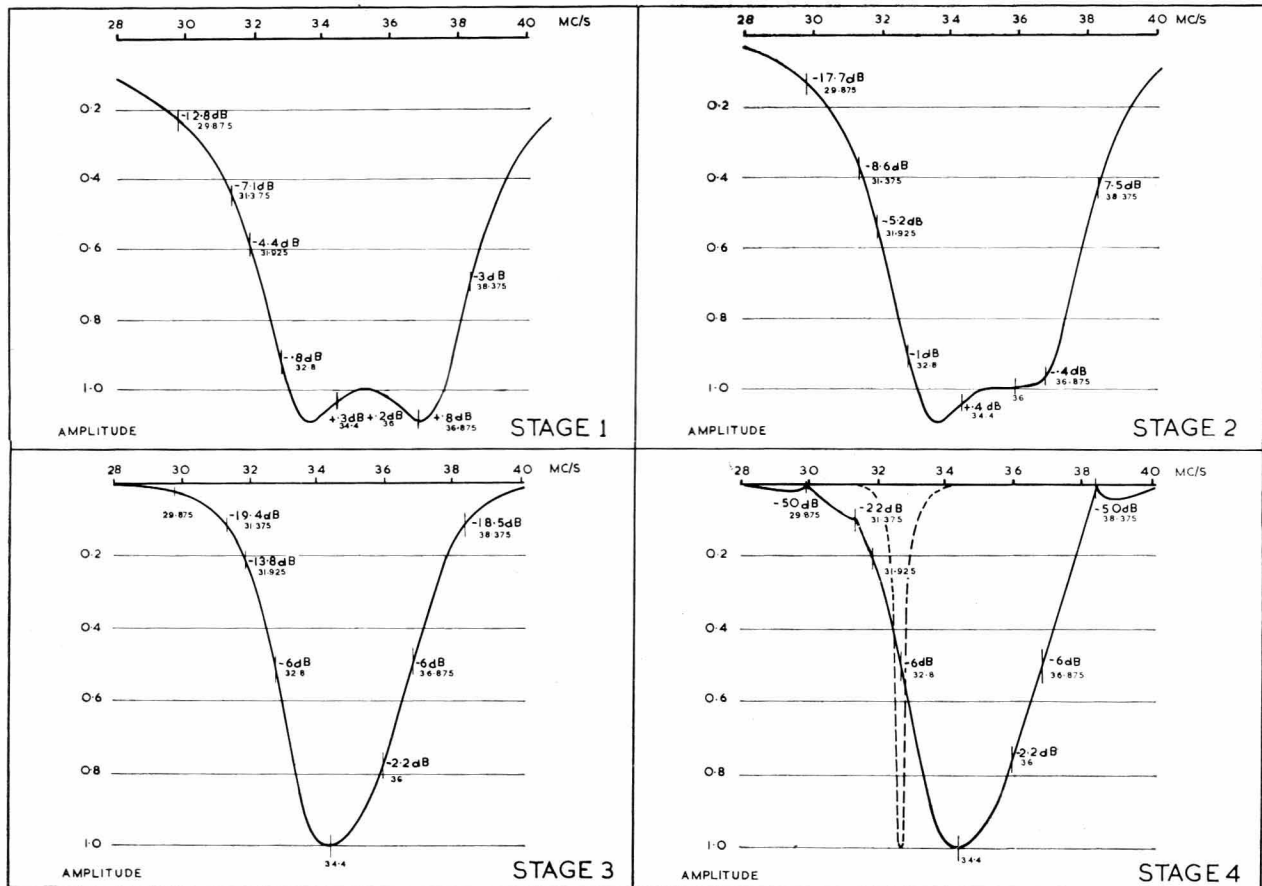

Fig. 3
- (b) Adjust the cores of L26 and IFT2 to obtain the response of Fig. 3, Stage 1.
- (b) Adjust the cores of L23 and IFT1 to obtain the response of Fig. 3, Stage 2.
adjacent to V2) and L20, to obtain the response of Fig. 3, Stage 3.
- (d) Insert a core in L21 and adjust the tuning and, if necessary, the spacing between L21 and L20, so that the response at 31.375 MHz is 22 dB below peak response, Fig. 3, Stage 4.
NOTE: The noise detector response as shown dotted in Fig. 3, Stage 4, automatically should be correct. However, if it is desired to check it, the following procedure should be adopted:
4. Disconnect the display from across C43 and connect it between the junction of R61 and C57, and earth. Remove V5 and V6 from their sockets. The response as shown dotted in Fig. 3, Stage 4, should be obtained.